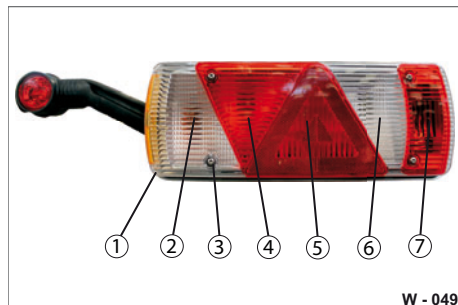

Fig. 49 Rear light components
- ▶ Unscrew the 4 fixing screws (Fig. 49/3).
- ▶ Remove the outer light lens (Fig. 49/1). Remove them carefully.
- ▶ Screw on the fixing screws (Fig. 49/3). Tighten the screw connections with max. 1.5 Nm tightening torque. Cracked light lenses must be replaced.